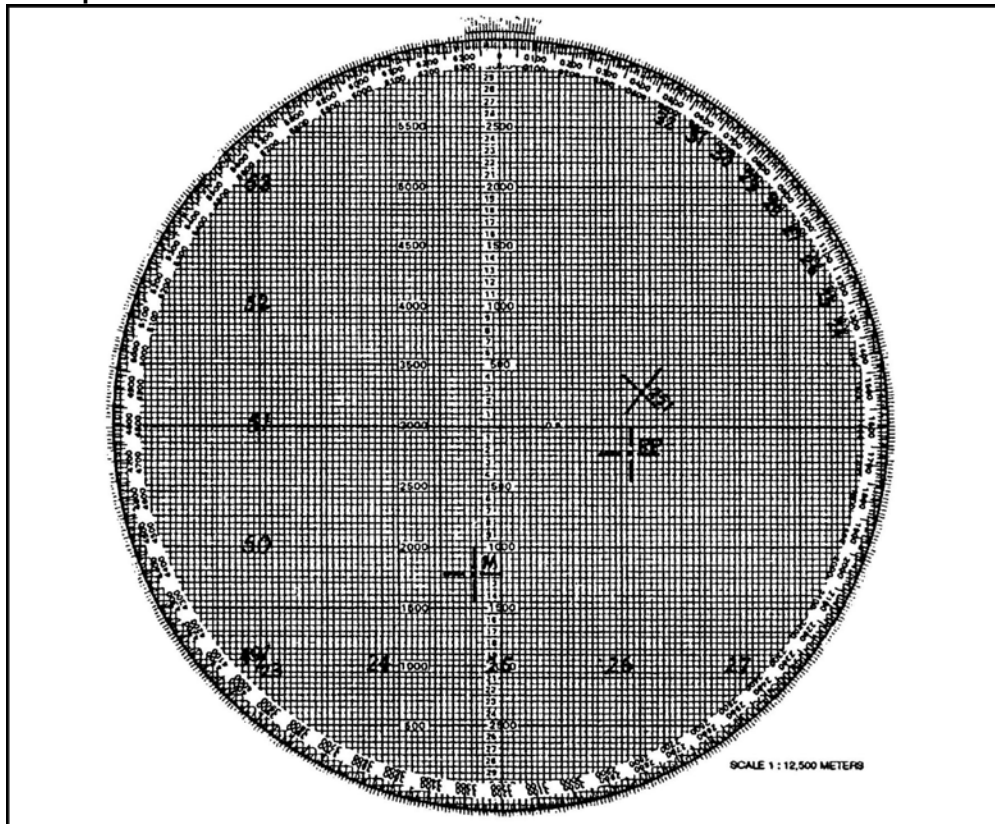

Figure 2. M16 Plotting Board Set Up as a Modified Chart
- e. The plotting board is set up as a modified observed chart (Figure 2).
- (1) Using the grid intersection (2551), place a grid system on the plotting board.
- (2) Plot the grid location of the mortar position and any other known points (RP, targets, and so forth).
- (3) Rotate the disk and align the mortar plot and RP plot.
- (4) Determine the direction of fire.
- (5) Determine the mounting azimuth.
- (6) Place the referred deflection scale on the disk.